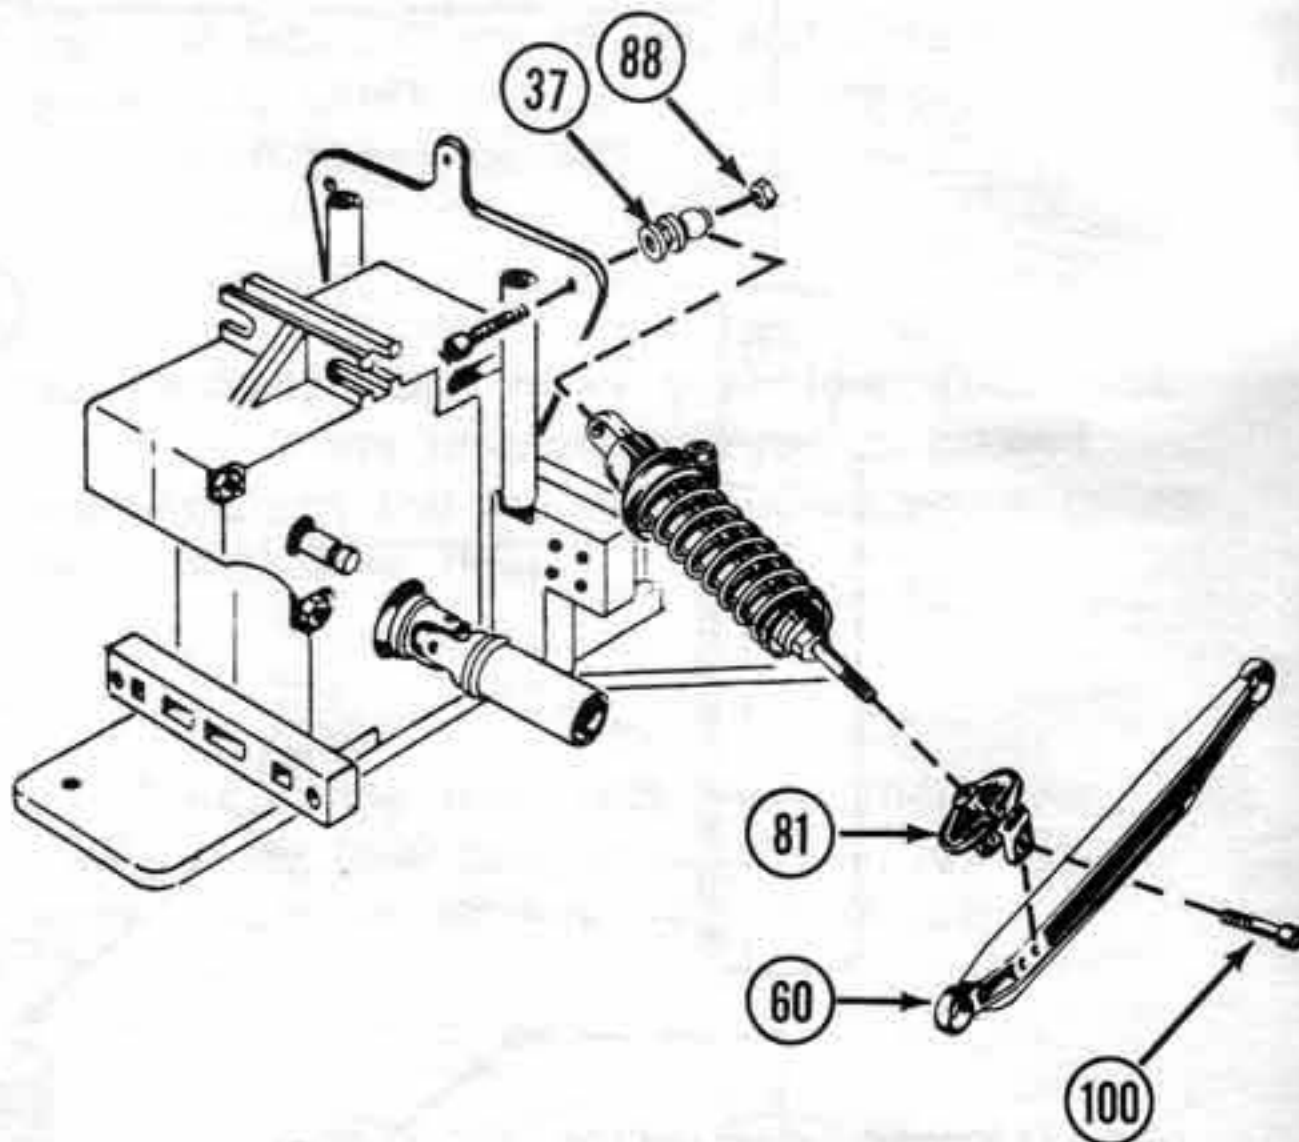

FIG. 43
2. Place lower end of shock (end with plastic mount (81) onto lower trailing link (60) so that shock leans inward. Fig.43
3. Place upper end of shock on shockmount (37) that is secured in shock tower. *NOTE- It will not snap into place. Fig. 43
4. Secure with 4-40 nylon nut (88). Fig. 43
5. Align holes in lower shockmount (81) with rear hole in lower trailing link (60). Fig.43
6. Secure with 2-56 shoulder screw (100) threaded from inside to outside. Fig.43